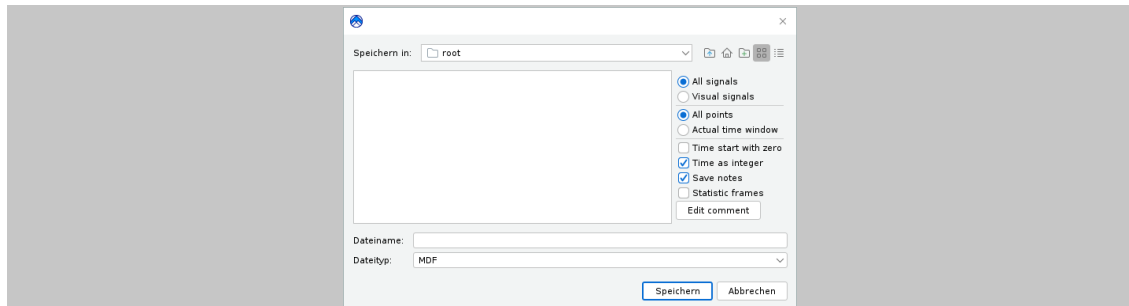

Figure 32: The Export signals window
1. Press **Export signals** in the File menu or use **E** key to open the Export signals window (see Figure 32).
2. Press **Export signals** in the File menu or use **E** key to open the Export signals window (see Figure 32).